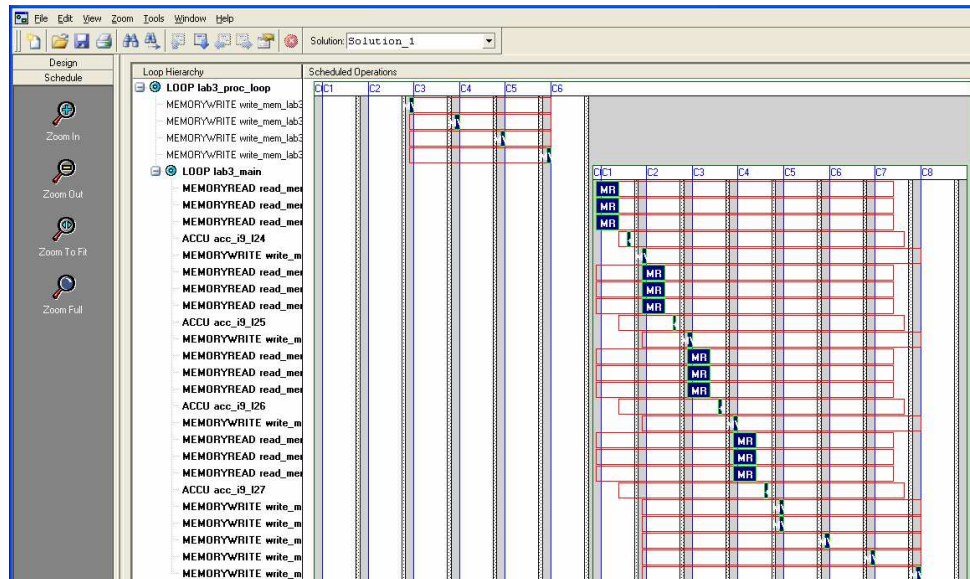

Figure 4 Schedule when mapping to RAMS
- ✓ Expand the lab3_main loop by clicking on the plus sign next to it in the loop hierarchy pane (Figure 4).